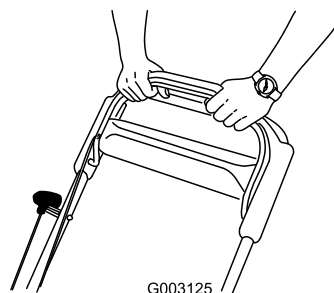

Figure 19
3. Hold the blade-control bar against the handle (Figure 19).